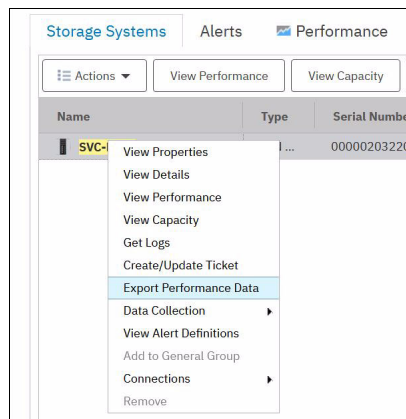

Figure 9-60 Selecting Export Performance Data
2. Right-click the storage system and select **Export Performance Data** (see Figure 9-60).